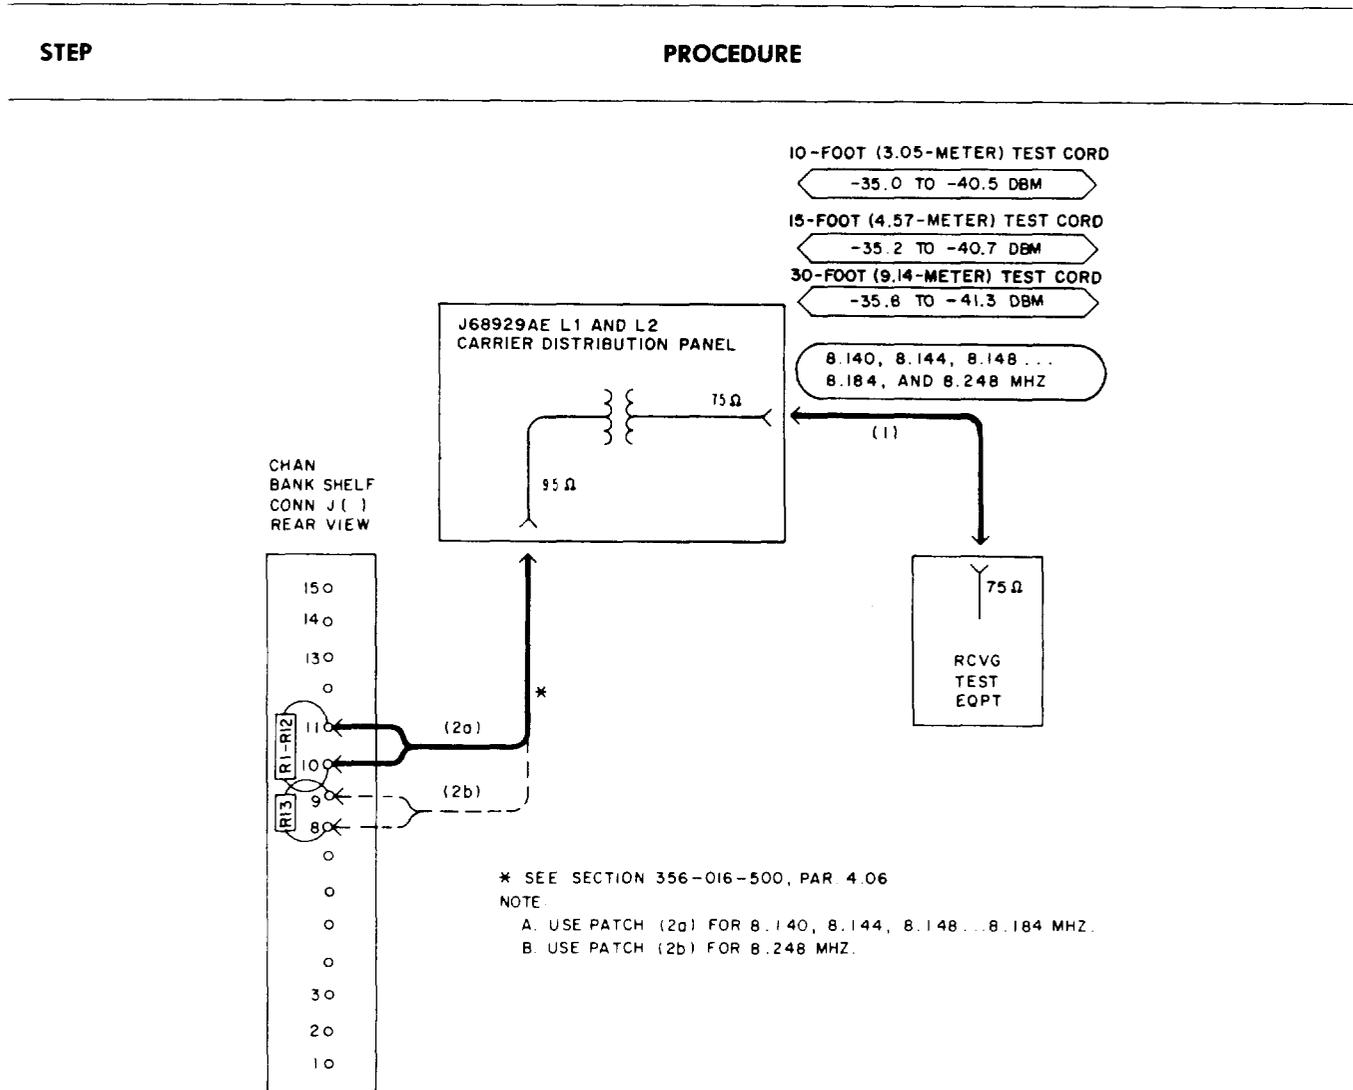

Fig. 13—Patching Diagram—Carrier-Distribution Test—Auxiliary Carrier Supply
71 At the rear of the A6 channel bank shelf selected in Step 68, connect the 95Ω jack to pins 10 and 11 of the Channel 1 plug-in-unit jack (J2) [Table E and patch (2a), Fig. 13]. (See Section 356-016-500, paragraph 4.06, for special cord construction.)
**Note:** These frequencies are on pins 10 and 11 of channel bank shelf connectors J3, J4, J5, ... and J13 [Table E and patch (2a), Fig. 13].
75	Remove patch (2a), Fig. 13 from pins 10 and 11.
76	Connect the 95 $\Omega$ jack to pins 8 and 9 of J14 [Table E and patch (2b), Fig. 13].
78	Remove patches (1) and (2), Fig. 13.